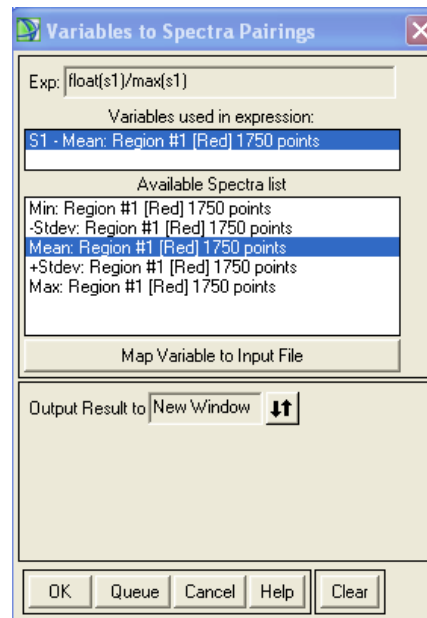

Figure 4. Variables Assignment window
11. Assign the spectral curve labeled Mean: Region #1 to the expression by clicking on it in the Variables Used in Expression list (see Figure 4). Change the Output Result to New Window and click OK. The Correction Spectrum opens in the Spectral Math Result Window.